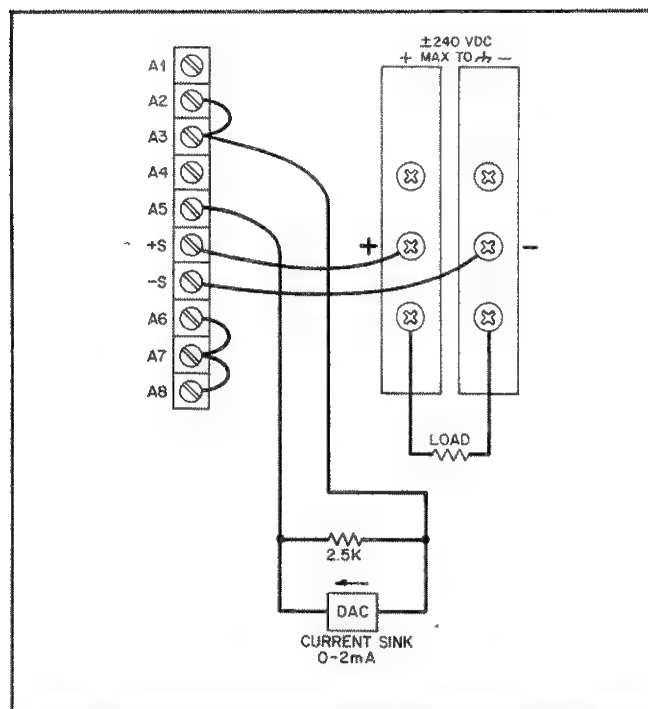

Figure 3-13. Current Programming of Output Current
**3-60 Current Programming of Output Current.** The rear-panel connections shown in Figure 3-13 allow the output current to be varied by using an external current sink to program the supply. (See note following Paragraph 3-47.) The discussion in Paragraph 3-56 for constant voltage operation also applies for constant current operation, except that the CURRENT control can be used in place of the external resistor by connecting A4 to A3 in place of the 2.5k resistor connected between A3 and A5.